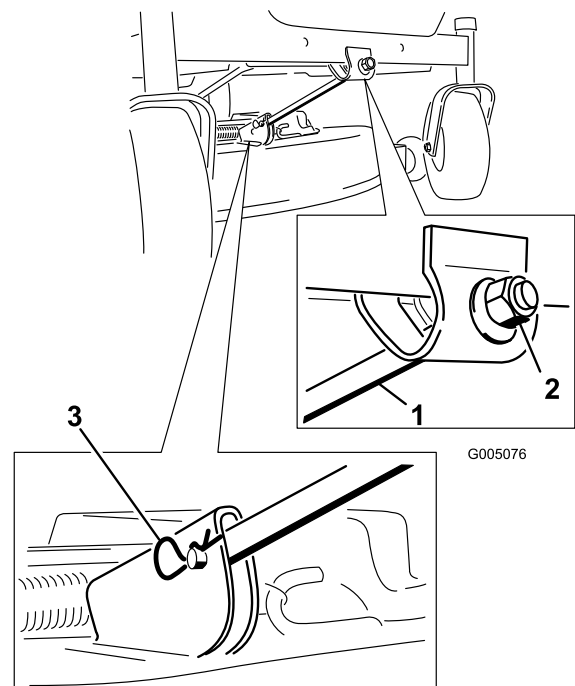

Figure 43
- Remove the hairpin cotter and clevis pin from the front support rod (Figure 43). Carefully lower the front of the mower deck to the ground.
6. Attach the front support rod to the mower deck with the clevis pin and hairpin cotter (Figure 43).